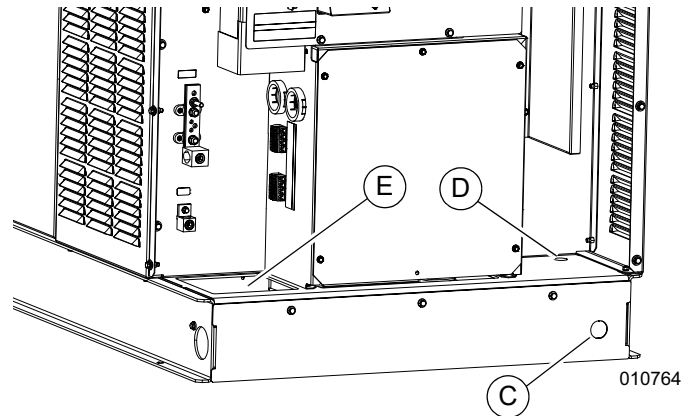

Figure 3. Ethernet Cable Install Locations
1. See **Figure 3**. Unit may have a knockout (C) on rear kick plate at unit base (either side). Run Ethernet cable through knockout in kick plate or pull cable through generator installation pad.